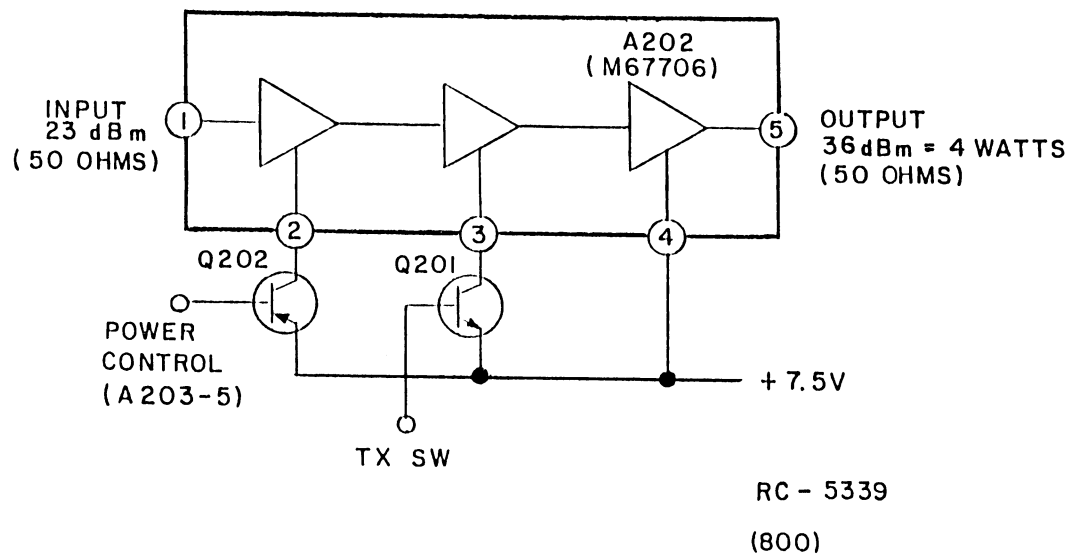

Figure 4 - Power Amplifier (PA)
Power Amplifier (PA) A202 is a three stage, wide band amplifier module with an input and an output impedance of 50 ohms (refer to Figure 4). The first stage of